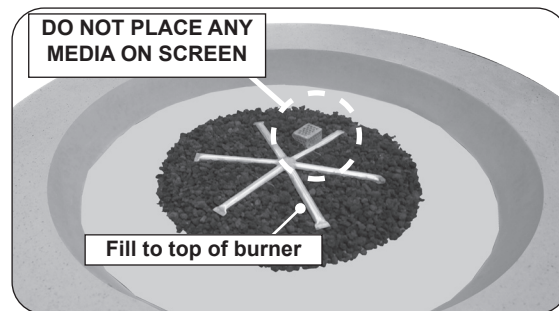
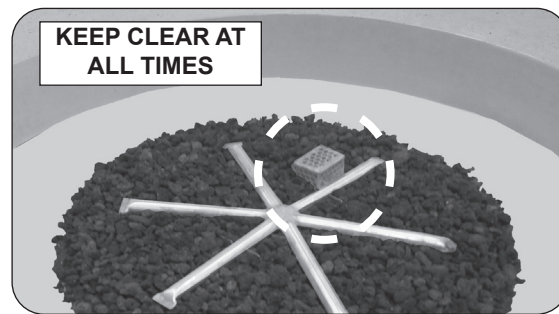

Fig. 31-1 Place lava granules
Fig. 31-2 Screen detail
1. Pour the 10 lb bag of lava granules into the burner area (with the exception of the screen). Spread the granules within the burner area as shown in Fig. 31-1 and Fig. 31-2. **Only fill the granules up to the top of the burner tube.**
Note: Select 12" star burner models only require half of the lava granules bag. **Do not overfill.** See Fig. 31-1 and Fig. 31-2.